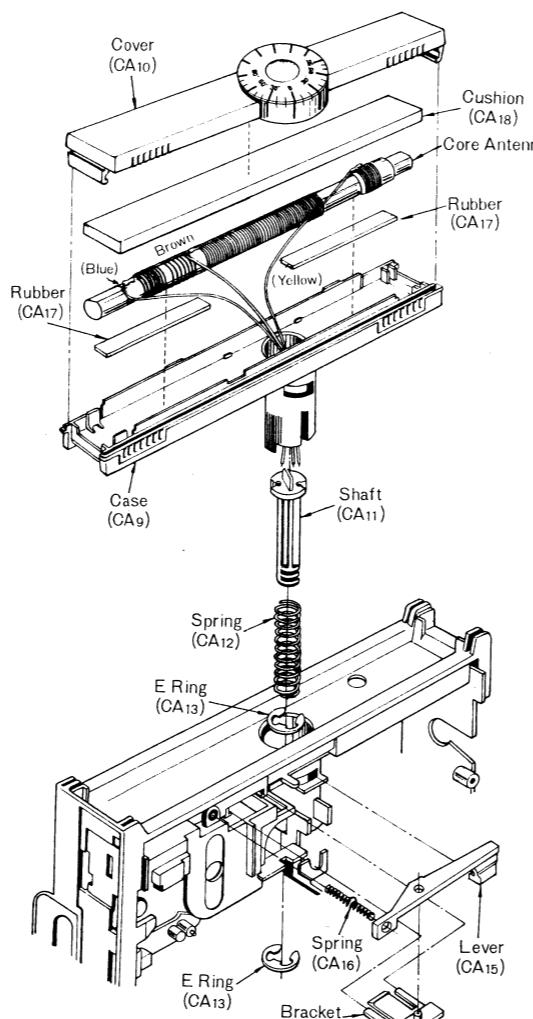

Fig. 5
6. Remove E ring (CA 13) by driver as illustrated in fig. 5.
3. Unsolder three (3) lead wires from PC board.
Note: When mounting core antenna to antenna case, wiring three (3) lead wires as illustrated in fig. 5.